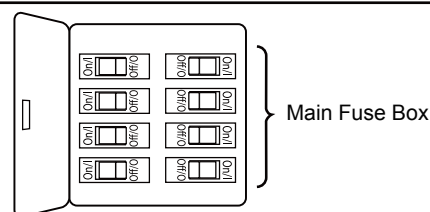
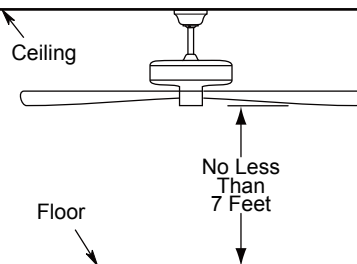
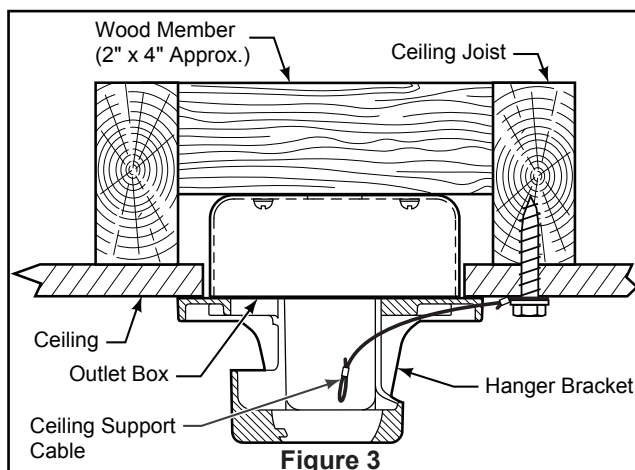

Figure 1
Figure 2
Figure 3
Your new ceiling fan will require a grounded electrical supply line of 120 volts AC, 60 HZ, 15 Amp Circuit. Electrical code requires use of a fan-rated outlet box to support the extra weight and motion associated with a ceiling fan. A fan-rated box will be labeled as such and typically supports up to a 70lb ceiling fan. Fan-Rated Outlet Boxes vary in ratings and design. Ensure the ratings of your ceiling fan outlet box meet the requirements for the ceiling fan being installed. Figure 1, Figure 2 and Figure 3 depicts different structural configurations that may be used for mounting the outlet box.
Low profile box (Figure 1)
Deep box (Figure 2)
Deep box with brace (Figure 3)
1. Remove the hanger ball portion from the downrod/hanger ball assembly by loosening the set screw in the hanger ball until the ball falls freely down the downrod. Remove the pin from the downrod, then remove the hanger ball. Retain the pin and hanger ball for reinstallation in Step 6. (Figure 1)
2. Remove the hairpin clip and clevis pin from the bottom of the downrod. Retain the pin and clip for reinstallation in Step 4. (Figure 2)
3. Loosen the two set screws and locking nuts in the downrod support of the motor assembly. Route the black, white, blue wires and safety cable through the downrod. (Figure 3)
To avoid possible fire or shock, be sure electricity is turned off at the main fuse box before hanging. (Figure 1)
The fan must be hung with at least 7' of clearance from floor to blades. (Figure 2)
- ☐ 1. Securely attach the hanger bracket to the outlet box using the outlet box screws and washers supplied with the outlet box. (Figure 3)
- ☐ 2. Drill a 1/4" pilot hole into the building structure to prevent splitting or cracking with installation of the lag bolt. Using the 3/8" x 2" lag bolt and flat washer, attach safety cable to ceiling joist or wood structural member. The lag bolt will pass through the flat washer, safety cable loop, and into the building structure. (Figure 3)
NOTE: Ceiling support cable cannot be secured to outlet box only, it must be directly secured to ceiling joist or structural member using the 3/8" x 2" lag bolt and flat washer. (Figure 3)
1. To set the code on receiver unit, slide dip switches to the same positions as set on the remote. (Figure 1)
To avoid possible electrical shock, be sure electricity is turned off at the main fuse box before wiring. (Figure 2)
2. Slide the receiver into the hanger bracket before wiring as shown in figure 3.
1. Assemble canopy by rotating key slot in canopy over shoulder screw in hanger bracket, taking care not to pinch the wires. Tighten shoulder screw. Fully assemble and tighten second shoulder screw that was previously removed. (Figure 1)
2. Securely attach and tighten the canopy screw cover over the shoulder screws in the hanger bracket utilizing the key slot twist-lock feature. (Figure 2)
1. Position the blade over the blade holder with the threaded posts showing. Make sure the bottom edge of the blade is fully seated against the blade holder. With a phillips screwdriver, tighten 3/16"-24 washer head screws and fiber washers to secure the blade to the blade holder. (Figure 1)
- ☐ 2. Secure the blade holders to the top hub of the motor assembly using the 1/4"-20 screws. (Figure 2)
- ☐ 1. Remove the three screws in the adaptor plate at the bottom of the motor assembly. Retain the screws for Step 3. (Figure 1)
- ☐ 2. Connect the 2 single pin connectors from the light kit assembly to the 2 single pin connectors from the motor assembly. (Figure 2)
- ☐ 3. Assemble the light kit assembly to the adaptor plate of the motor assembly using the previously removed screws and securely tighten all three screws. (Figure 3)
- ☐ 1. **IMPORTANT:** Using a full range dimmer switch (not included) to control fan speed will damage the fan. To reduce the risk of fire or electrical shock, do not use a full range dimmer switch to control the fan speed. (Figure 1)
- ☐ 2. Restore electrical power to the outlet box by turning the electricity on at the main fuse box. (Figure 2)
- ☐ 3. To make fan operational, install 23A/12V battery (included) in hand-held remote transmitter, with fan power off. Then follow the remote code setting process. (If not used for long periods of time, remove battery to prevent damage to transmitter). Store the remote away from excessive heat or humidity. (Figure 3)